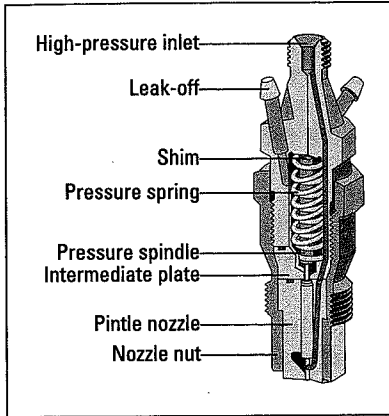

Figure 7-5:
4. The fuel injection pump is truly the heart of the diesel engine. (See Figure 7-5.) It sends fuel to a series of mini-pumps called fuel transfer pumps, each of which is responsible for delivering fuel at a pressure of over 1,000 psi (pounds per square inch) to one of the fuel injector nozzles. (See Figure 7-6.)
The fuel injection pump's brain is the *governor* (refer to Figure 7-5), which has a very important job: It controls the exact amount of fuel that's sent from each mini-pump to the nozzles and makes sure that the engine doesn't go so fast that it damages itself with excessive heat and pressure. Some governors are built right into the injection pump; others work off the crankshaft or the pump's timing gear; still others measure the speed of the air coming into the engine. All governors are affected by the pressure of your foot on the accelerator, the temperature in the cylinders, the altitude, the speed of the vehicle, and the load that the vehicle is carrying.